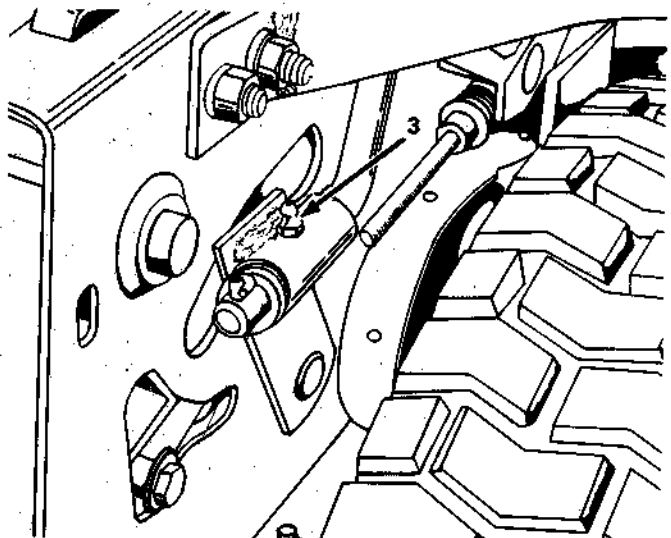

Figure 18
3. Figure 18 — Hydrostatic control arm pivot (hydrostatic models).